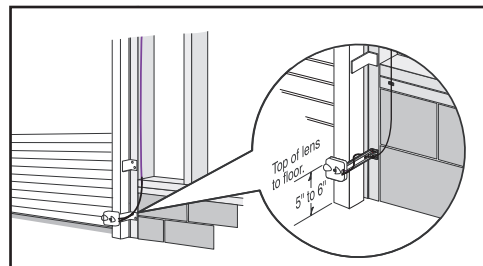

Figure 9
- Determine location for mounting. They do not need to be directly adjacent to the door but must be somewhere along the wall where there will be an unobstructed line between them. **Fig 9.**